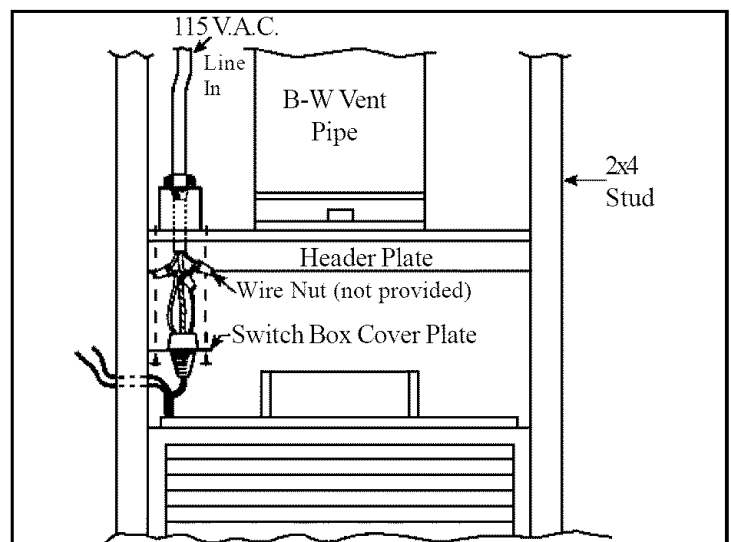
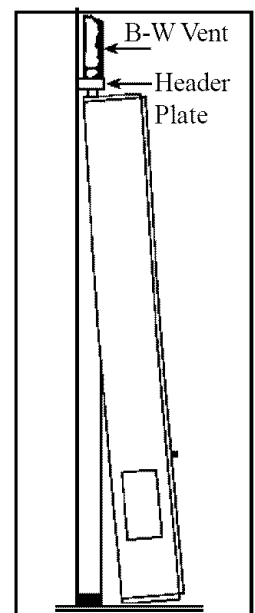

FIGURE 3
FIGURE 7
Rough in 115 v. wiring, terminating inside the junction box located on top of header plate for recessed, or in a receptacle box (not provided) for flush mount. Consult local codes or ordinances. See Figure 3.
- STEP 7.** To place furnace into position, grasp furnace and lift so furnace flue vent and header plate vent opening engage. Plug power cord from top of heater into receptacle on bottom of the header plate, see Figure 3. Run thermostat wire through a drilled hole into an adjacent stud space. Do not route it behind the header plate. To do so may cause the thermostat wiring to chaff resulting in the appliance operating continually. Connect thermostat wire with thermostat wires extending from top of heater. Lift furnace upward and swing bottom into wall, see Figure 7. Secure furnace in place using 2 holes provided in bottom of casing.